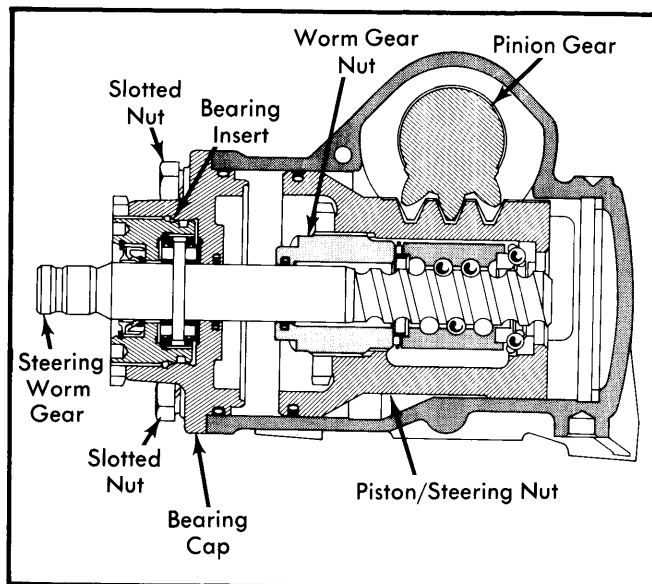

Fig. 8 Cross-Sectional View of Steering Gear
11) Remove bearings from piston/steering nut. See Fig. 8.